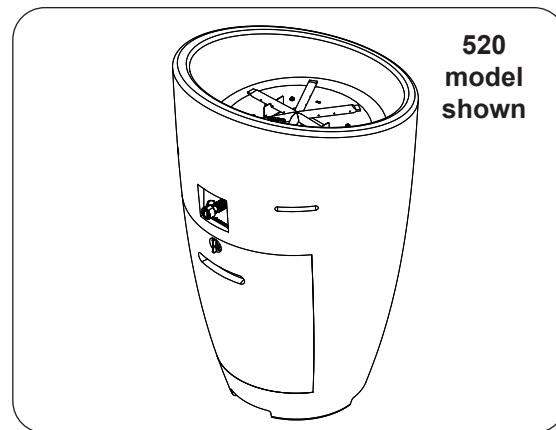

Fig. 19-1 Place urn
1. **CAREFULLY** place the urn in an appropriate location (see Fig. 19-1, and refer back to the LOCATION section if needed).